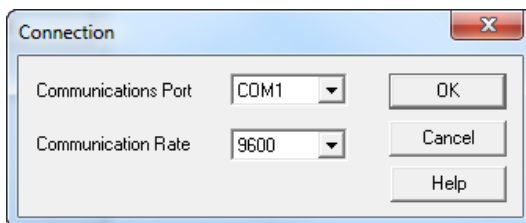

Figure 7-5
- DataView® will open and the **Connection** window will appear (see Figure 7-5).
- Click the **Configure Instrument** button and the **Connection** window will appear (see Figure 7-5).
NOTE: The instrument must be configured for the same communications rate specified in Figure 7-5. If it is not, then you must either select the corresponding rate or change the instruments rate.